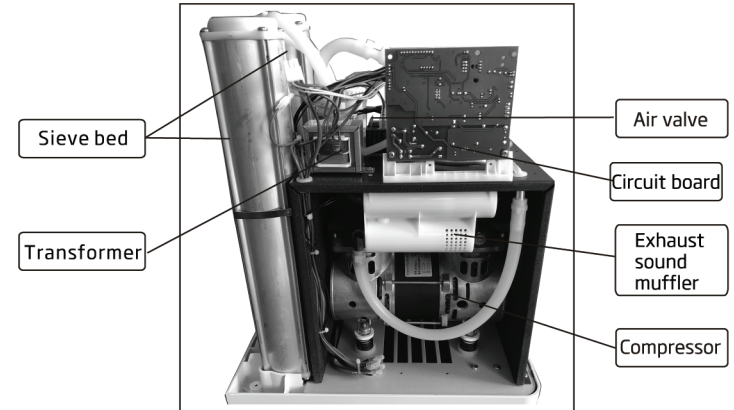

Figure 23
- › Unscrew the screws on both sides and take out it. (Figure 23, Figure 24)